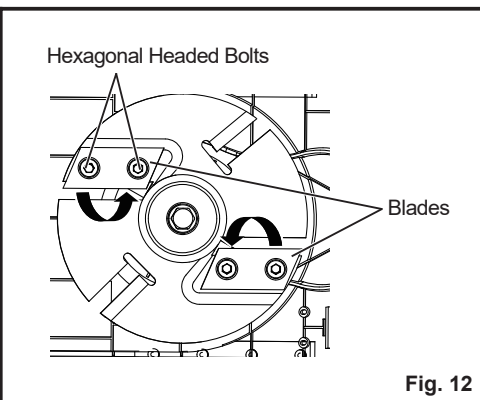

Fig. 12
- Remove the blade and rotate it through 180° and fit the blade to the blade plate with the 2 inner hexagonal headed bolts using the hex key. Ensure that the blunt cutting edge is facing downwards (Fig. 12).